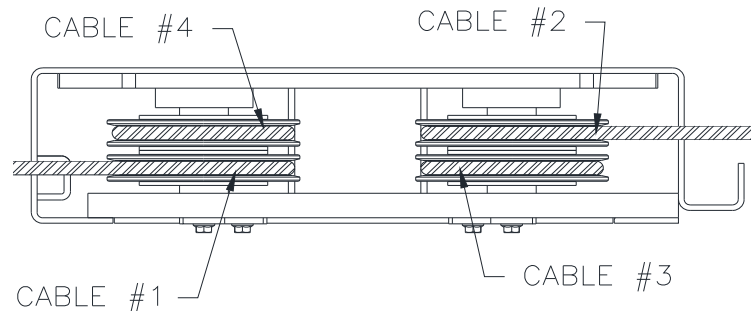

Fig 6 – Power Runway 4-Stack (Rear View)
- Unpack lift. Remove all packaging from Power Runway (power runway has four cable sheaves at rear end) and pull threaded cable ends out. Make sure the cables are in the proper sheaves at the 4-stack, **Fig 6**.
- 12) From the rear, route cable #1 from the bottom of the left sheave stack through the access hole and up out the left end of the rear cross beam. Repeat for cable #2 from the top of the right rear sheave stack through the access hole and up out the right rear of the rear cross beam, **Fig 6 & 7. MAKE SURE THE CABLES ARE NOT TANGLED WITH THE LOCK RELEASE ROD INSIDE THE CROSSBEAM.**